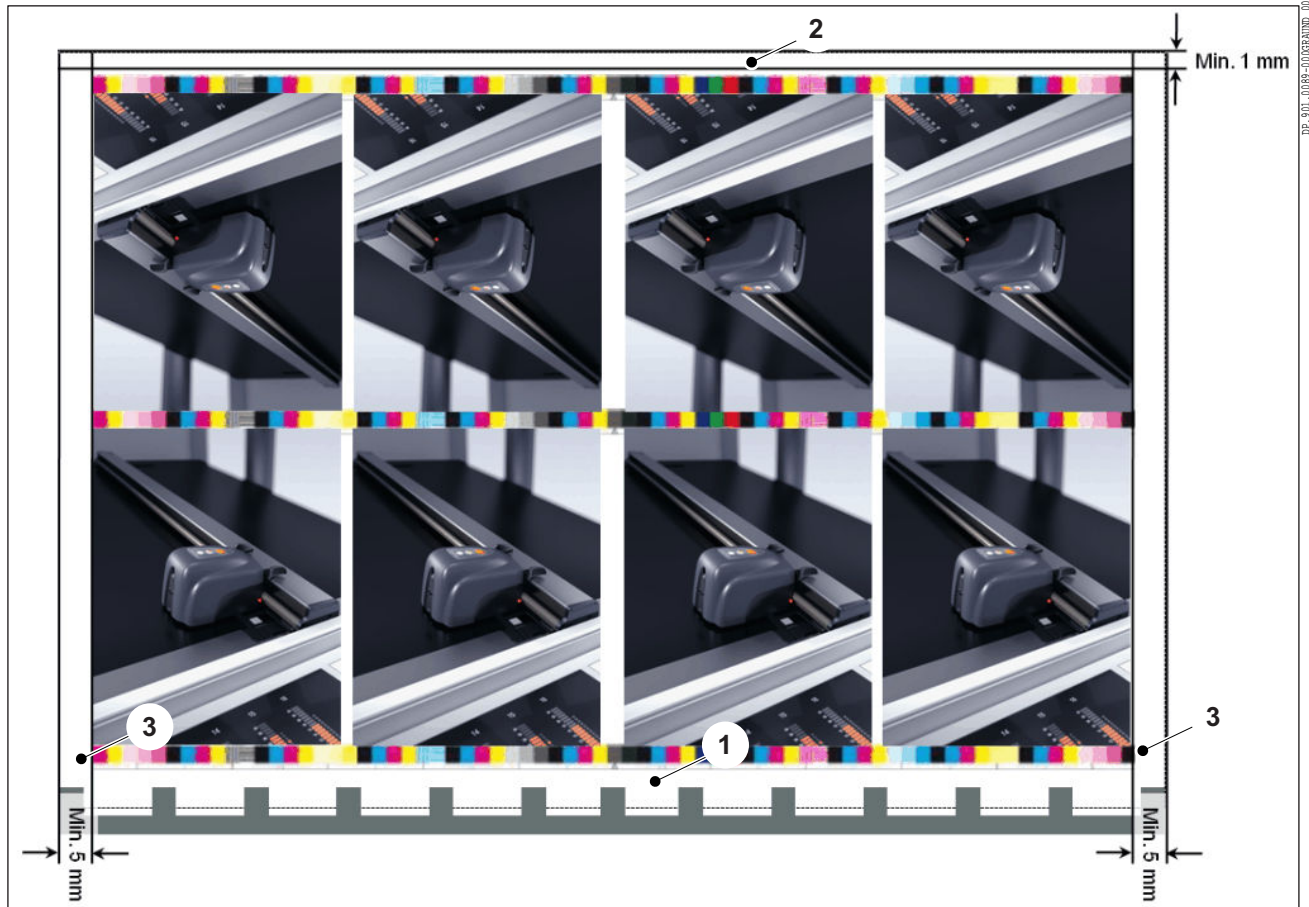

Fig. 22 Mounting Prinect Easy Control
- You can mount the quality control strip at any position you wish between the gripper margin (Fig. 22/1) and the rear edge of sheet (Fig. 22/2).
- In order to facilitate the automatic paper white measurement and detection of the quality control strip, there must be at least 5 mm of paper white between the lateral sheet edges and the start of the quality control strip (Fig. 22/3).